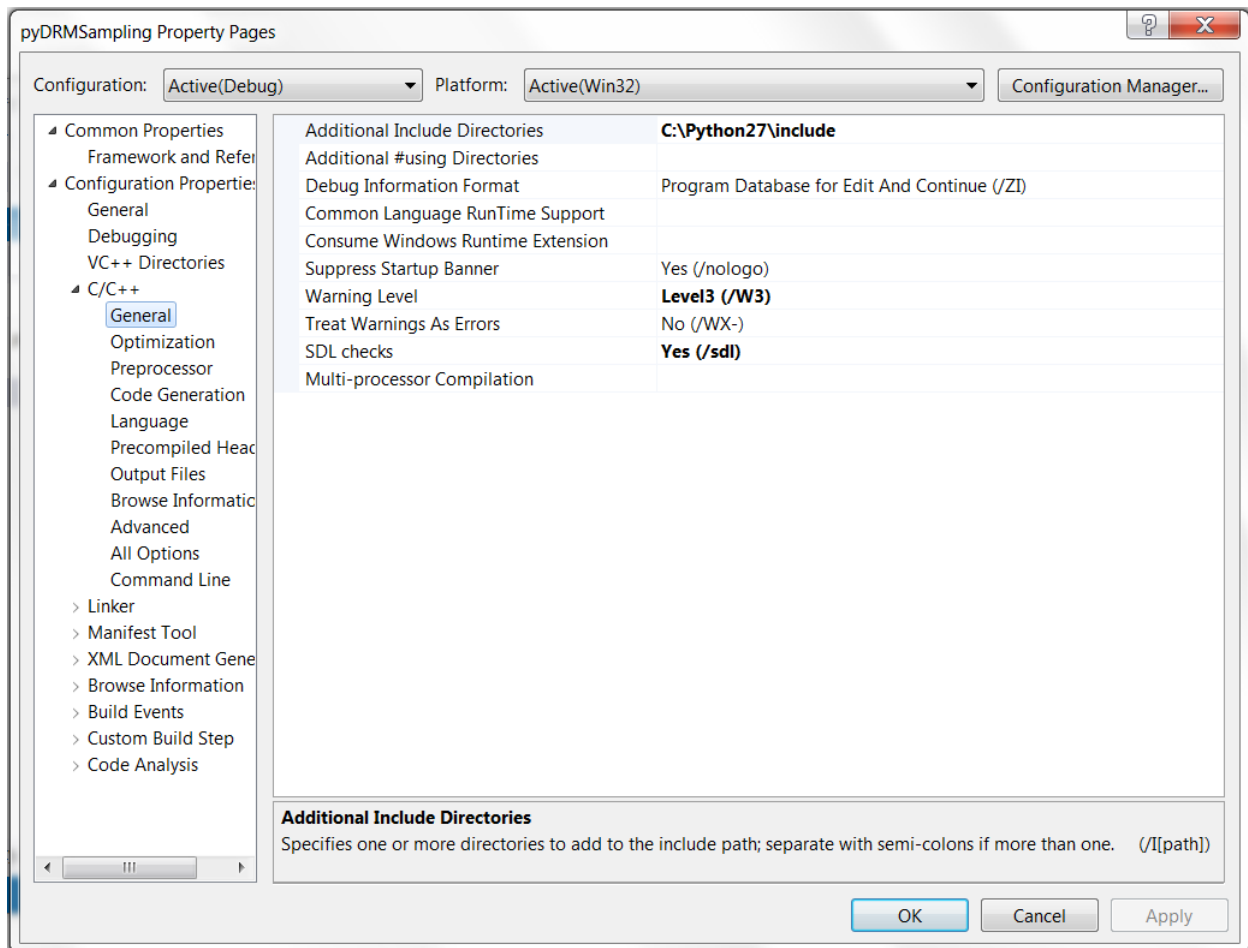
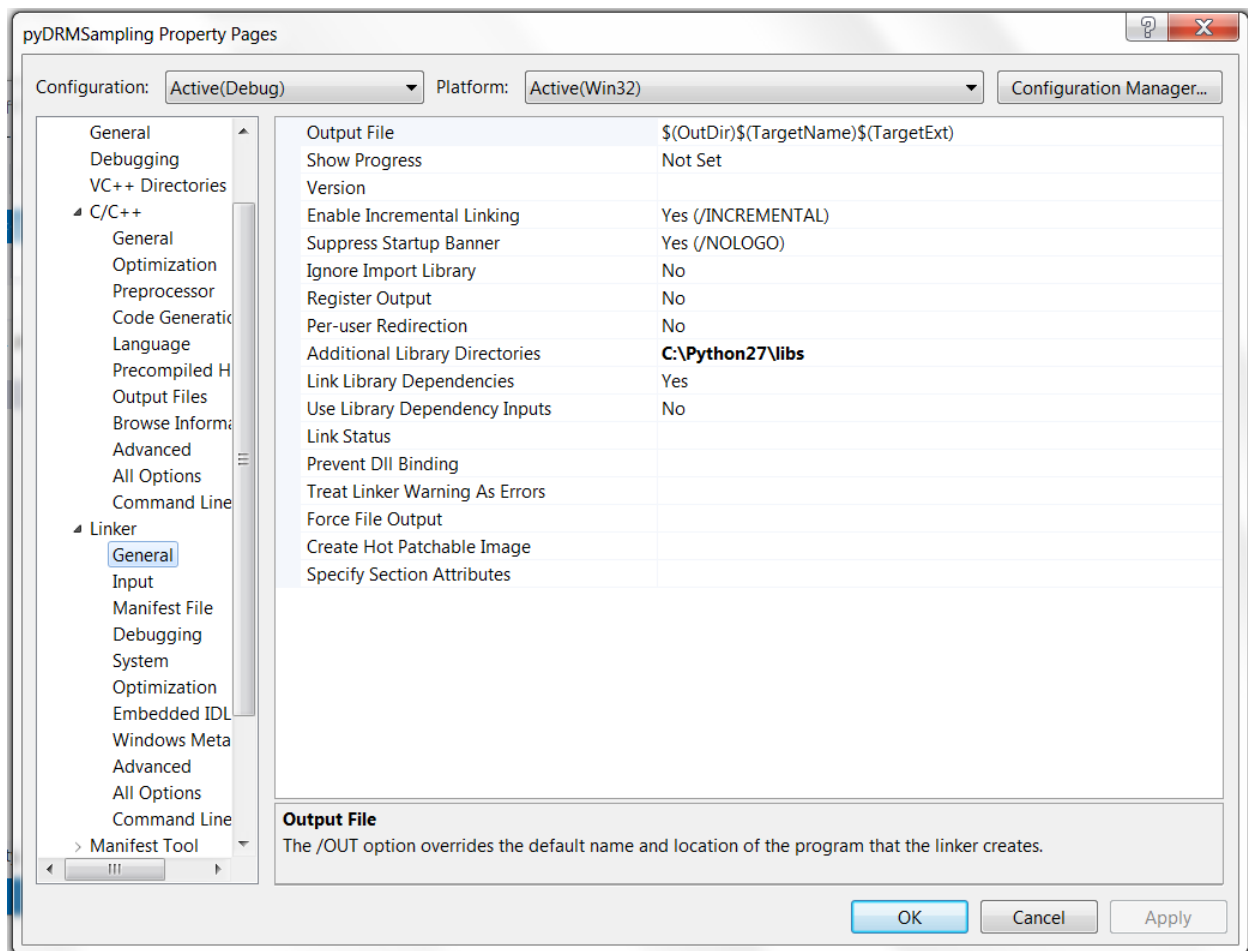

Figure 2. Project Property Configuration Dialog for Additional Include Directory
Figure 3. Project Property Configuration Dialog for Additional Library Directory
3. When “pyDRMSampling” in the “Solution Explorer” frame is selected, issue **Project**→**Properties** command to bring up a “pyDRMSampling Property Pages” dialog. In the left side frame, open the tree “Configuration Properties→C/C++→General” as shown in Figure 2
In the right frame, modify the entry for “Additional Include Directories” to the “include” directory of the Python 2.7 installed on the user’s computer. Figure 2 shows the default installed folder of “C:\Python27\include”. Next, open the tree “Configuration Properties→Linker→General” as shown in Figure 3. In the right frame, modify the entry for “Additional Library Directories” to the “libs” directory of the Python 2.7 installed on the user’s computer. Click “OK” to close the property page dialog.